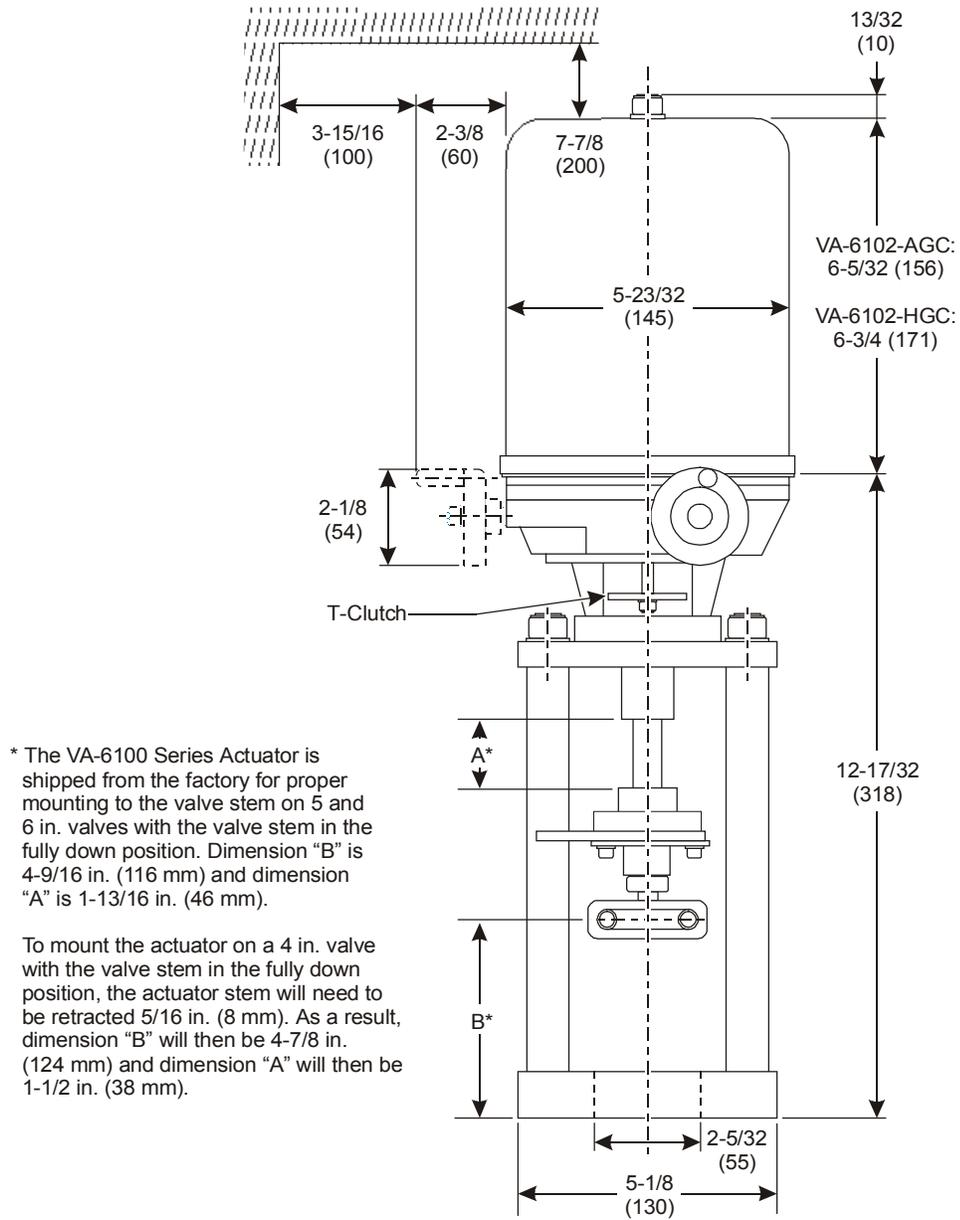

Figure 3: VA-6100 Series Electric Valve Actuator Dimensions, in. (mm)
- Allow sufficient clearance to remove the actuator (as illustrated in Figure 3).